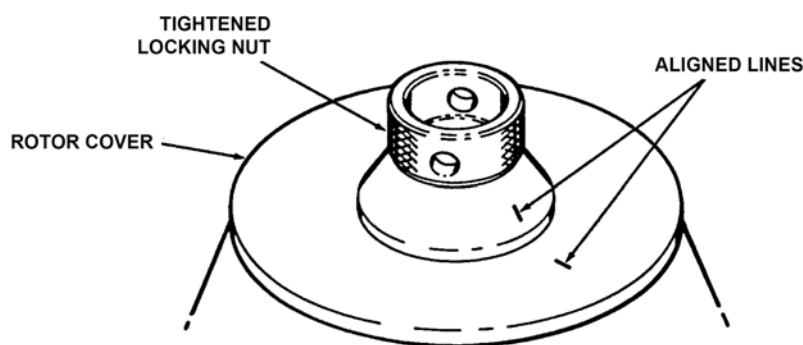

Figure 2-7. Rotor Cover Installation
4. Place the rotor cover (with O-ring) on the rotor body, and position the silver line on the rotor cover over the #1 tube compartment. Insert the locking nut in the cover and finger tighten the nut by turning it clockwise. Insert the rotor cover tool through continue to tighten the locking nut by turning the rotor cover tool clockwise until the silver line on the locking nut lines up with the line on the rotor cover (figure 2-7). Remove the rotor cover tool from the locking nut.